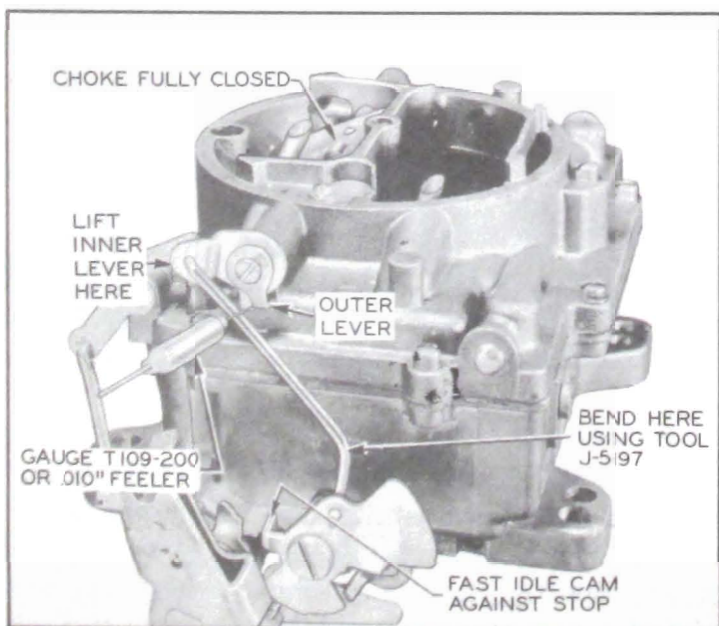

Figure 3-55—Fast Idle Rod Adjustment
21. *Adjust Fast Idle Rod.* Hold choke valve closed and hold fast idle cam against stop on casting by lifting on inner lever, then check clearance between lugs on inner and outer choke shaft levers using Gauge T 109-200 or .010" feeler gauge. Bend fast idle rod at lower angle as required to obtain this clearance using Tool J-5197. See figure 3-55.